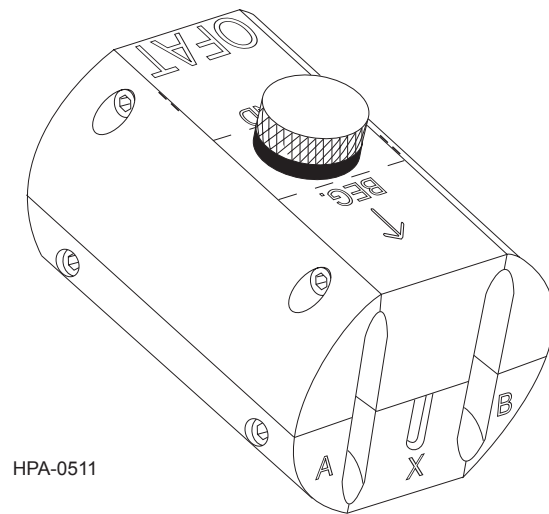

Figure 28
Step 1: Read and completely understand SRP-004-014, Corning Optical Communications OFT-000 Optical Fiber Access Tool (OFAT) (Figure 28). This procedure describes how to access fibers in a buffer tube with the OFAT.